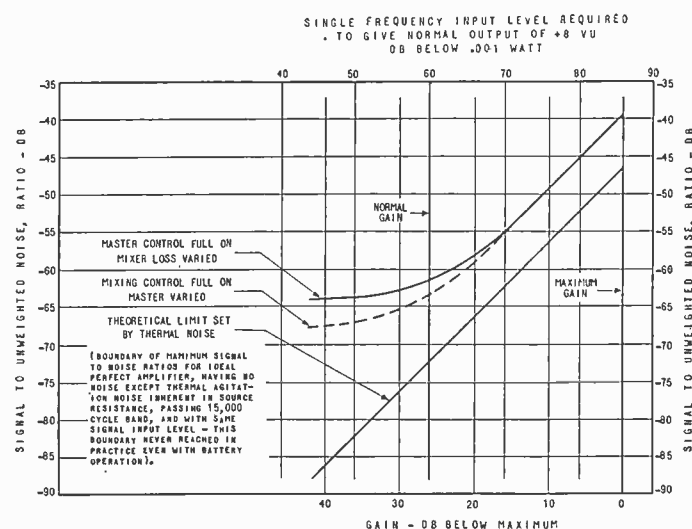

Fig. 1
The variation of signal-to-noise ratio with varying gain adjustment as shown in Figure 1 also indicates a new order of system performance. The significant points here are (1) the close approach to theoretically ideal noise ratio at high gain settings, (2) the corresponding improvement in noise ratio as the gain is reduced by either the mixer or master controls to a value well within the most rigorous performance standards, and (3) the wide margin of available net gain, about 26 db, above that required to give reference output with the accepted normal microphone level of — 60 vu.